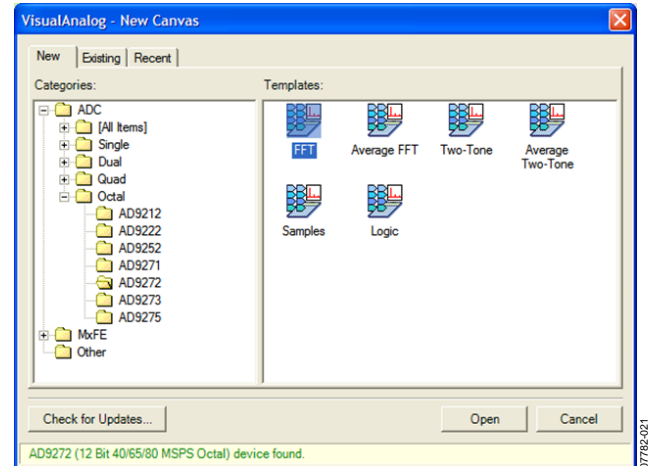

Figure 3. VisualAnalog, New Canvas Window
1. Open VisualAnalog™ on a PC. AD9272 or AD9273 should be listed in the status bar of the **New Canvas** window. Select the template that corresponds to the type of testing to be performed (see Figure 3).